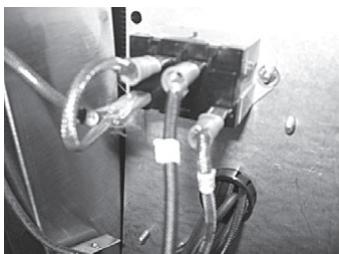

Figure4
5. Mark and drill new relay mounting holes (5/32 Dia.) identified as holes (E) on Partial Hole Chart Drawing (Page 2).
6. Install new relay and connect wiring as Shown in Figure 4 and the included revised wire diagram (G03302 Rev.2 or G03322 Rev.1) The new relay requires a four wire connection. The fourth connection is accomplished by creating a jumper wire out of the wire identified to connect to terminal 6 of the new relay. Cut existing wire approximately 2.5 inches from existing connector as shown in figure 5. Strip 1/4 inch insulation from both cut wire ends and insert and crimp in wire connector furnished with the kit, as shown in figure 6. The new wire connector should go to terminal 6 of the new relay and the jumper section will connect to terminal 1 of the new relay. Finish wiring by connecting the appropriate wires to terminals 0 and 4 as shown on included wire diagram for unit being serviced.